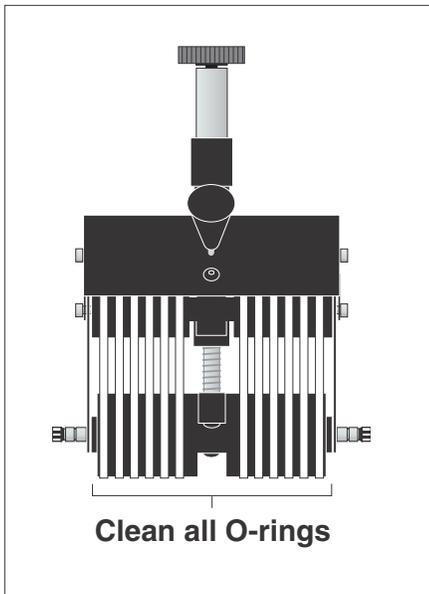
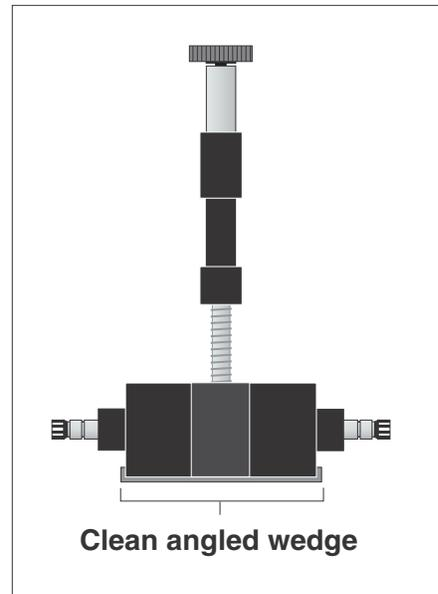

Figure 5-13. Advancing O-Ring Gate
Figure 5-15. Bar Gate
5. Wipe across O-rings (Figures 5-13 or 5-14), or angled wedge if applicable (Figure 5-15). First wipe in one direction, then the other.